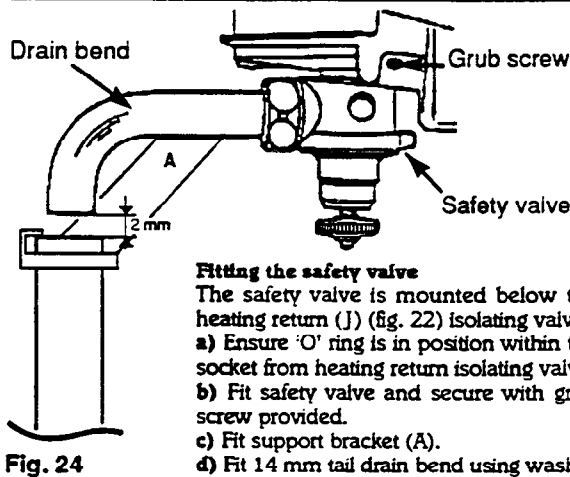

Fig. 24
N.B. The drain must be 22 mm and the 14 mm drain bend from the safety valve must be installed so that discharge of water is directly over the 22 mm drain and readily visible. A tundish arrangement is acceptable. The connection must NOT be made by a capillary or compression fitting directly between the 14 mm drain bend and the 22 mm discharge pipe without a 2 mm air gap (see fig. 24).